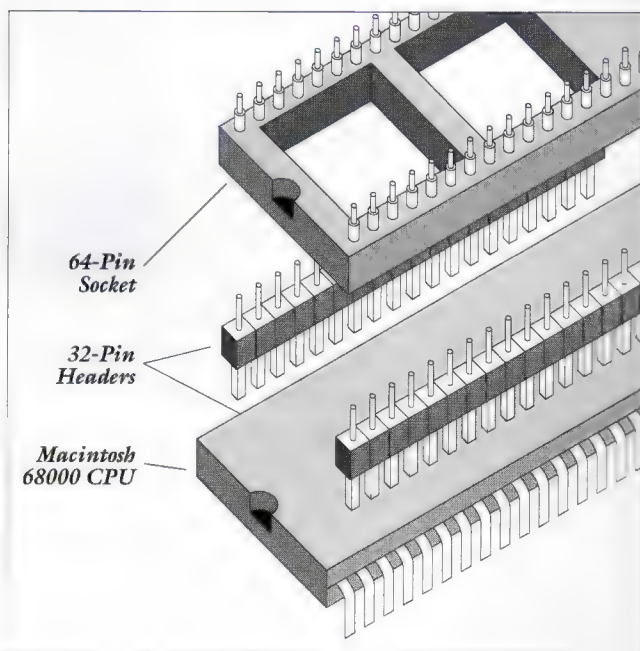

Figure 9 : Exploded view of the pin mount
1. You must solder header strips onto the pins of the Macintosh CPU. Two 32-pin header strips are supplied, mounted under a 64-pin socket as shown in Figure 9. The 64-pin socket is only used as a carrier for the header strips to provide alignment — once you are done, discard the socket.